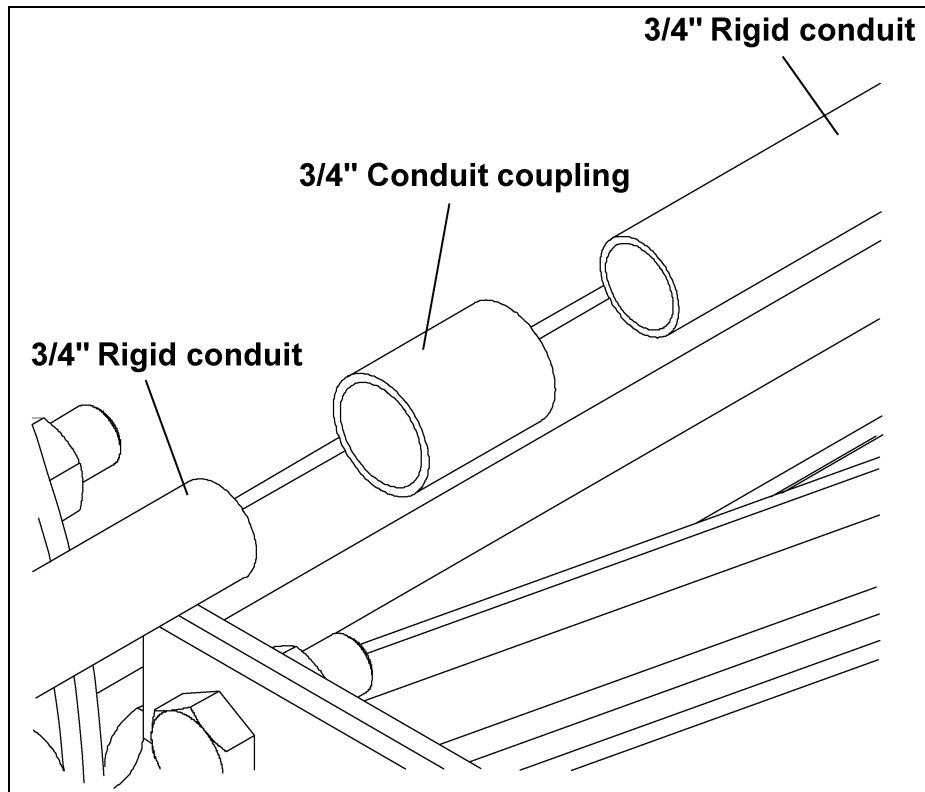

Figure 5AA
B. Connect the rigid conduit together using one 3/4" conduit coupling between each piece of conduit. (See Figure 5AA.)